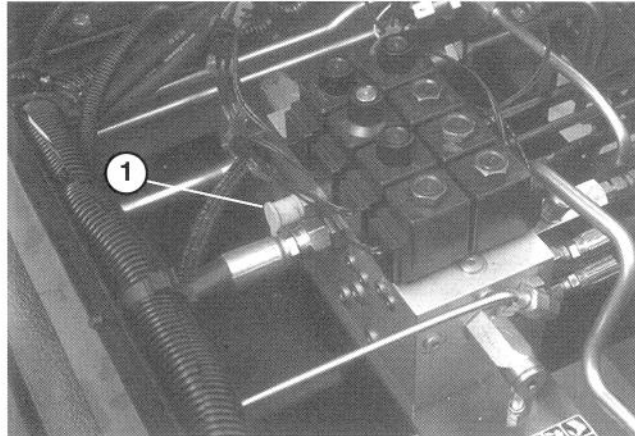

Figure 53
(Fig. 53–55)
1. Test Port #1 (Fig. 53) is used to assist in trouble shooting the hydraulic circuit for the front cutting units and lift cylinders.